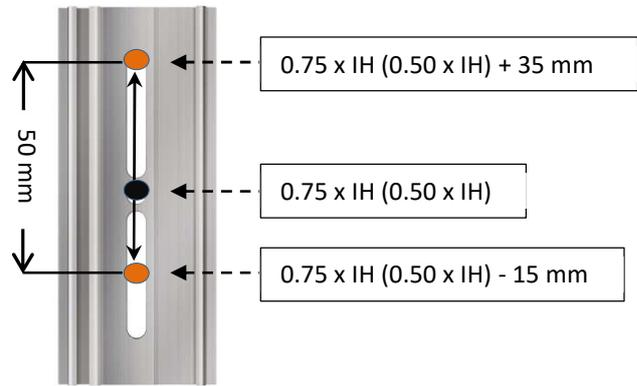
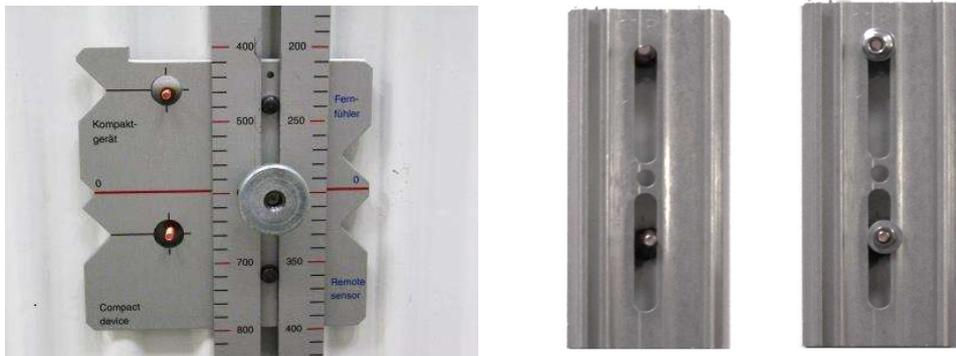

Figure 8: Welding stud spacing
Figure 9: Distance between welding studs with mounting gauge and fastening of the aluminum heat conductor
In order to ensure the correct mounting position before the final fixing of the aluminum heat conductor, we recommend fixing the upper threaded bolt at a height of **0.75 x installation height (IH) radiator + 35 mm** or at a height of **0.50 x installation height (IH) radiator + 35 mm** if the installation height is less than (<) 410 mm. This allows the aluminum heat conductor to be placed on the upper welding stud (no slipping!) and is therefore already in the correct position before the final fastening with the locking nut or shank nut (see Figure 9). The stud spacing between the upper and lower welding studs is **50 mm**. This means that the lower welding stud has a distance of **-15 mm** in relation to the middle centering mark (see Figure 8). It is recommended to use the Engelmann mounting gauge to mark the welding stud position. This is designed for the procedure described above and is available as an optional accessory.